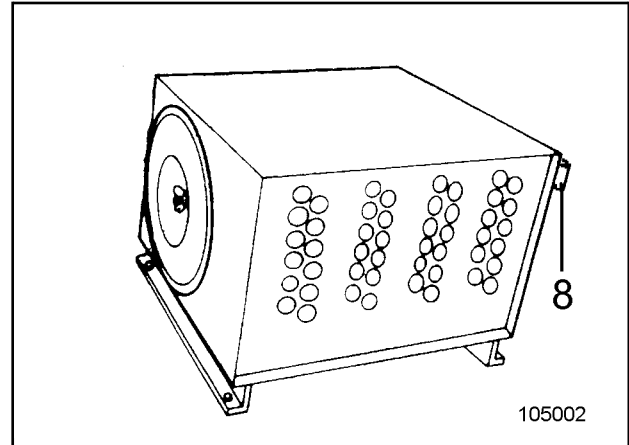

Fig. 2
An insufficient air-intake performance, caused by a contaminated main filter element, is indicated by the vacuum-meter (8, Fig. 2).
- Replace or clean main filter element. The vacuum-meter (arrow, Fig. 2) must now show a green segment.